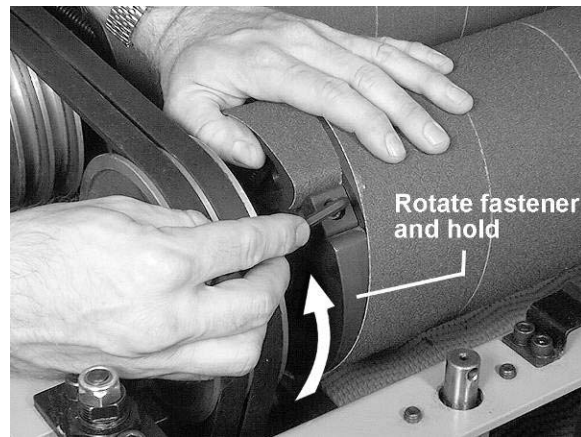

Figure 12
7. The left end of the drum which contains the recess is an independent piece (Fig. 12) that can be rotated on the drum. This fastener is spring-tensioned to take up any slack and hold the abrasive strip firmly to the drum. Rotate this fastener backward and hold it there with your thumb as shown in Fig. 12.
8. Tuck the tapered left end of the strip into the recess, as shown in Fig. 12, then insert the locking wedge and socket head cap screw, tightening the screw until the locking wedge is firmly seated.